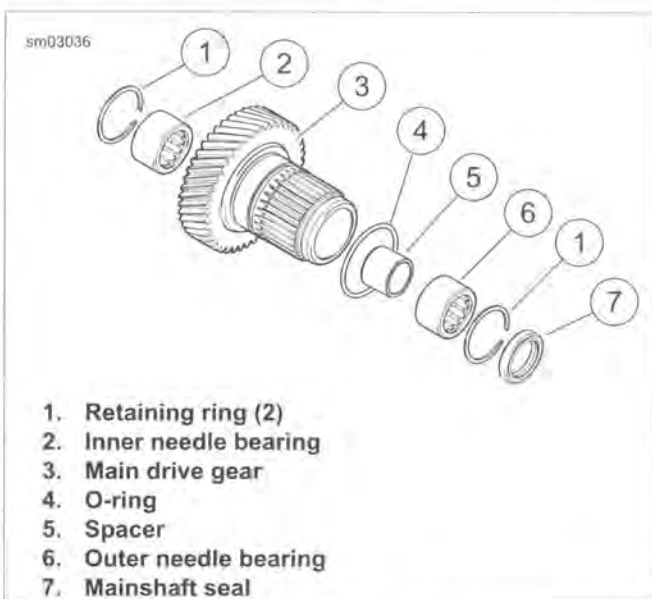

Figure 6-40. Main Drive Gear Assembly
- See Figure 6-40. Remove mainshaft seal (7).
- Remove retaining rings (1), needle bearings (2, 6) and spacer (5) from main drive gear (3). Discard retaining rings.
- Remove and discard O-ring (4).
- See Figure 6-40. Install spacer (5).
- See Figure 6-40. Turn over the main drive gear. With the tool at the 0.188 in step, press inner needle bearing until tool contacts gear.
- See Figure 6-40. Install **new** retaining rings (1).
9. Install **new** O-ring (4) into groove in main drive gear.